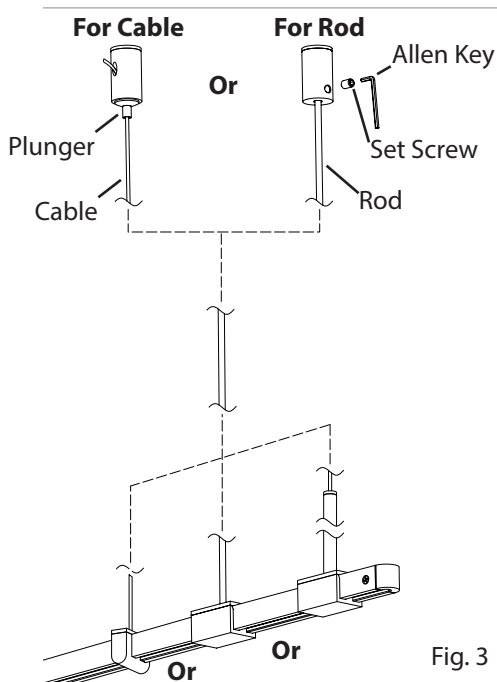

Fig. 3
- a. For Rod Hangers: Cut the **Rod** to the desired length, then insert the **Rod** into the **Post** and tighten the **Set Screw** with the **Allen Key** (Fig. 3).